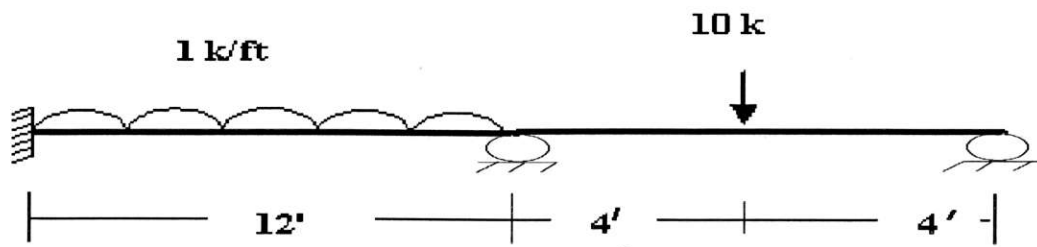

Figure 6
6. Draw bending moment diagram of the beam shown in **Figure 6**. Use **Flexibility Method**. Assume $EI = \text{Constant}$.